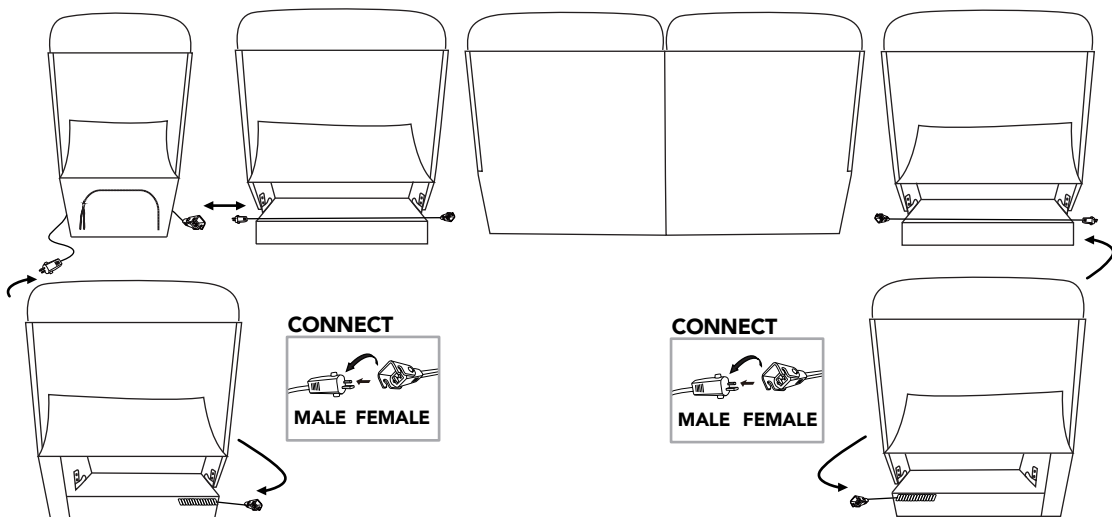

Figure 3.1
- 3 Connecting power cords with each position. (See Figure 3.1)**